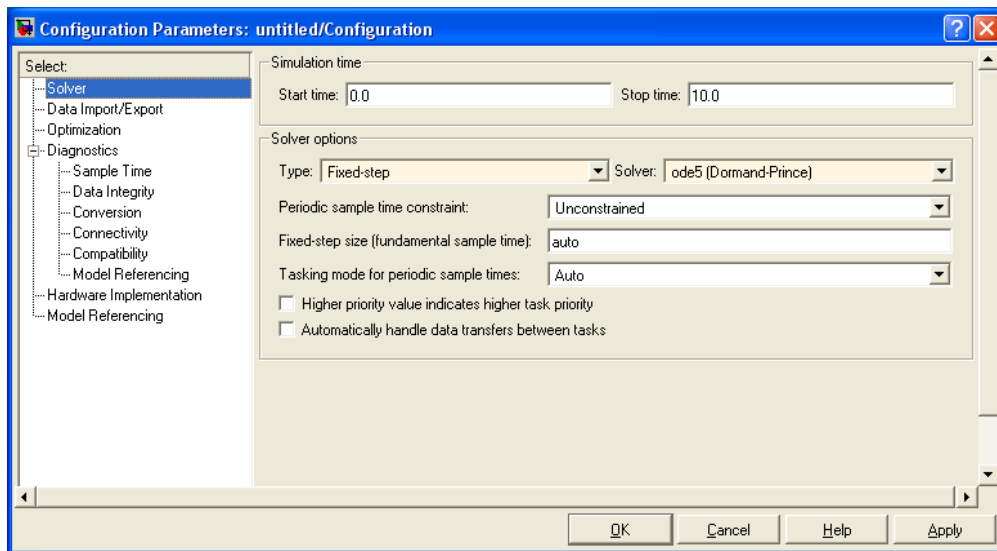

Figure 3.4: The **Configuration parameters** dialog window. **Type** is **Fixed step**.
- *If you have selected **Fixed step***: Figure 3.4 shows the dialog window according to this selection. In this case Simulink uses a
How do you select a proper fixed time step size? Either you can let Simulink select a proper step size, or you can set it manually, cf. Figure 3.4. If you do it manually you can proceed as follows: *Set the step size equal to 1/1000 of the simulation time range*, which is the time from the